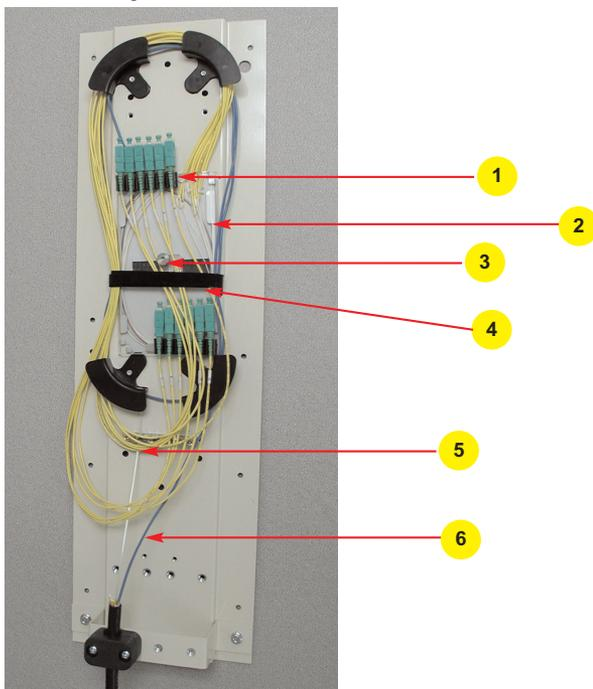

Fig. 27
- Manipulate the cable to provide gentle bends between the green clamp shell and the compression fitting (Fig. 27).